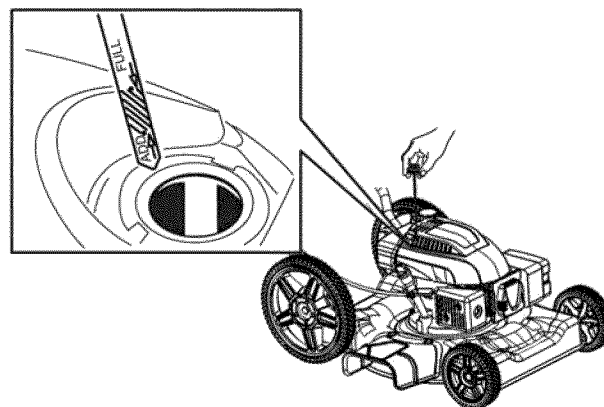

Figure 6
1. Remove the dipstick, wipe it clean, and fully install the dipstick (Figure 6).
2. Remove the dipstick and check the oil level (Figure 6). If the oil level is below the Add mark on the dipstick, slowly pour oil into the oil fill tube to raise the oil level to the Full mark on the dipstick. Do not overfill (Max. fill 20 oz. (0.59 l), type: SAE 30 detergent oil with an API service of SF, SG, SH, SJ, SL, or higher.)